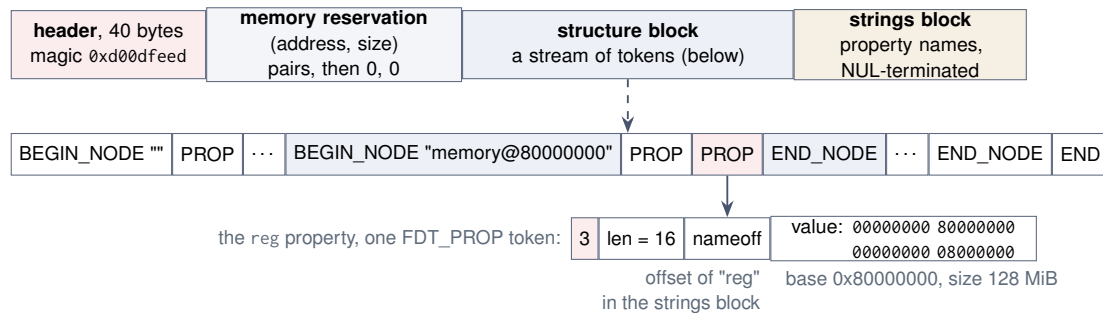

Figure 2: The layout of a flattened devicetree, and the token sequence of the `reg` property of `/memory@80000000`.
The firmware passes the tree as a **flattened devicetree** (FDT, or DTB), the binary format of chapter 5 (Figure 2). A 40-byte header with the magic number `0xd00dfeed` gives the offsets of three blocks. The **structure block** is a stream of 32-bit tokens: `FDT_BEGIN_NODE` (1) and the node's name; `FDT_PROP` (3), the value's length, the offset of the property's name in the **strings block**, and the value; `FDT_END_NODE` (2); `FDT_NOP` (4); and `FDT_END` (9), all padded to four bytes. The **memory reservation block** lists 64-bit (address, size) pairs to keep away from, ending with two zeros. Every number is **big-endian**, and all three Turk-OS targets are little-endian, so every cell is byte-swapped as it is read.